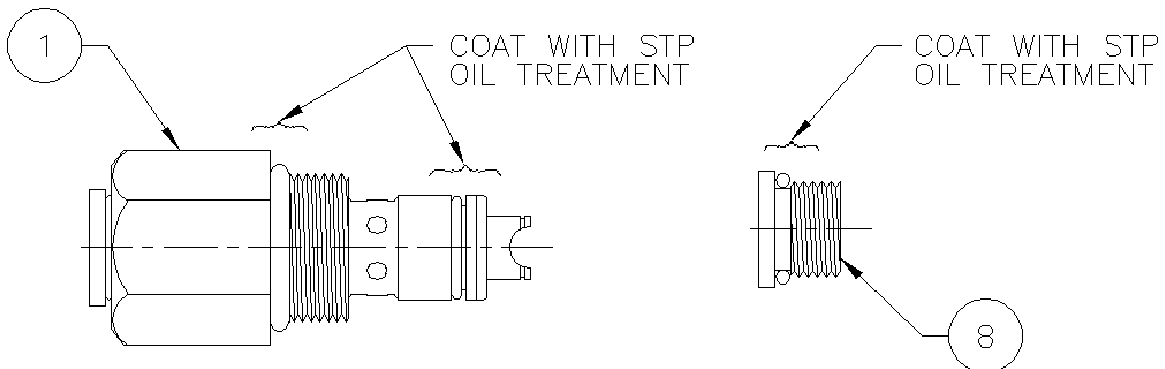
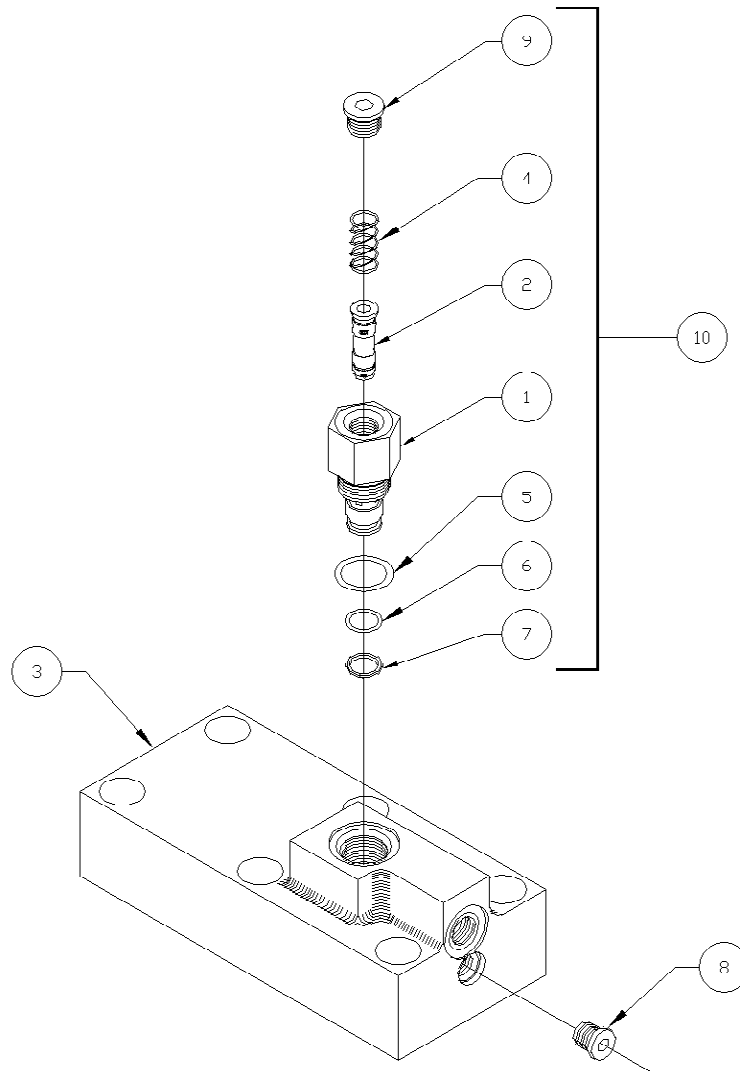

figure S-3
figure S-4
Before starting the assembly of the Slowdown, refer to the exploded parts drawing and parts list (fig. S-4 found at the end of these instructions) to familiarize yourself with the individual components. Prepare a clean surface in an area free from blowing dust and contaminants in which to assemble the Slowdown. Be sure that all parts are clean and dry before starting assembly.
- Coat the o-rings on the plunger housing (1) (fig. S-3) and the o-ring on the o-ring plug (8) with STP Oil Treatment. Screw the plunger housing (1) into the top of the rack cap (3) (fig. S-4) and torque to 30 in-lb. Screw the o-ring plug (8) into the side of the rack cap (3) in the bottom port and tighten.